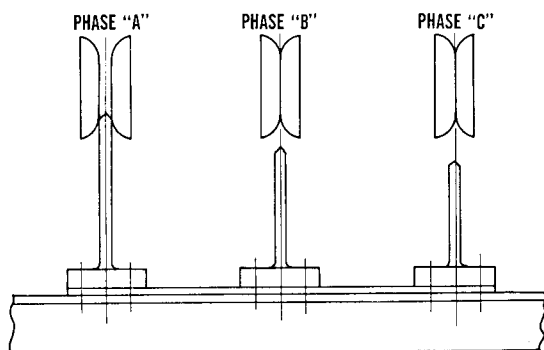

FIG. 8—PHASING SEQUENCE A-B-C OR H1-H2-H3
**Phasing-Out Contacts**—These contacts are provided so that one phase of the cable can be grounded at a time. Buttons on the operating handle are provided for operation. Sequence of grounding may be either H1-H2-H3 or H3-H2-H1. H1-H2-H3 is standard and will be furnished unless ordered otherwise. See Fig. 8 and 9.
(1) When pin marked "A" on the handle stops the movement, the contacts are engaged for phase "A" as shown in Fig. 8. Phases "B" and "C" are open-circuited. Check for circuit through phase "A" with test voltage then tag.
(2) Release pin "A" on the handle and move the switch handle until pin marked "AB" stops movement. The contacts are then engaged for phases "A"